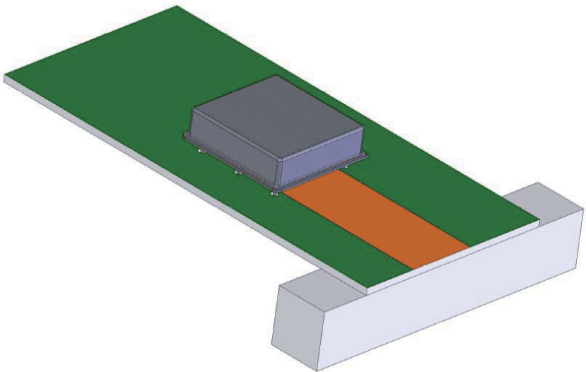

Figure 8. Small Hybrid Mounted to a Circuit Board.
Lower power hybrids can often be mounted directly to the circuit board or PCB as shown in Figure 8. Good thermal contact should be maintained between the hybrid and the board. An adhesive is often used. Mounting flanges or a mounting strap across the top of the hybrid can also help maintain good thermal contact. The thermal resistance of the PCB should be calculated lengthwise through the PCB material from the center of the hybrid to the mounting locations of the PCB using (3). The case temperature can be calculated from (5). Typical PCB materials are not good thermal conductors. Copper planes are often employed to improve thermal conductivity along the length of the PCB. Likewise, thermal vias are used to improve thermal conductivity through the PCB, usually under the hybrid or at the board mounting locations.